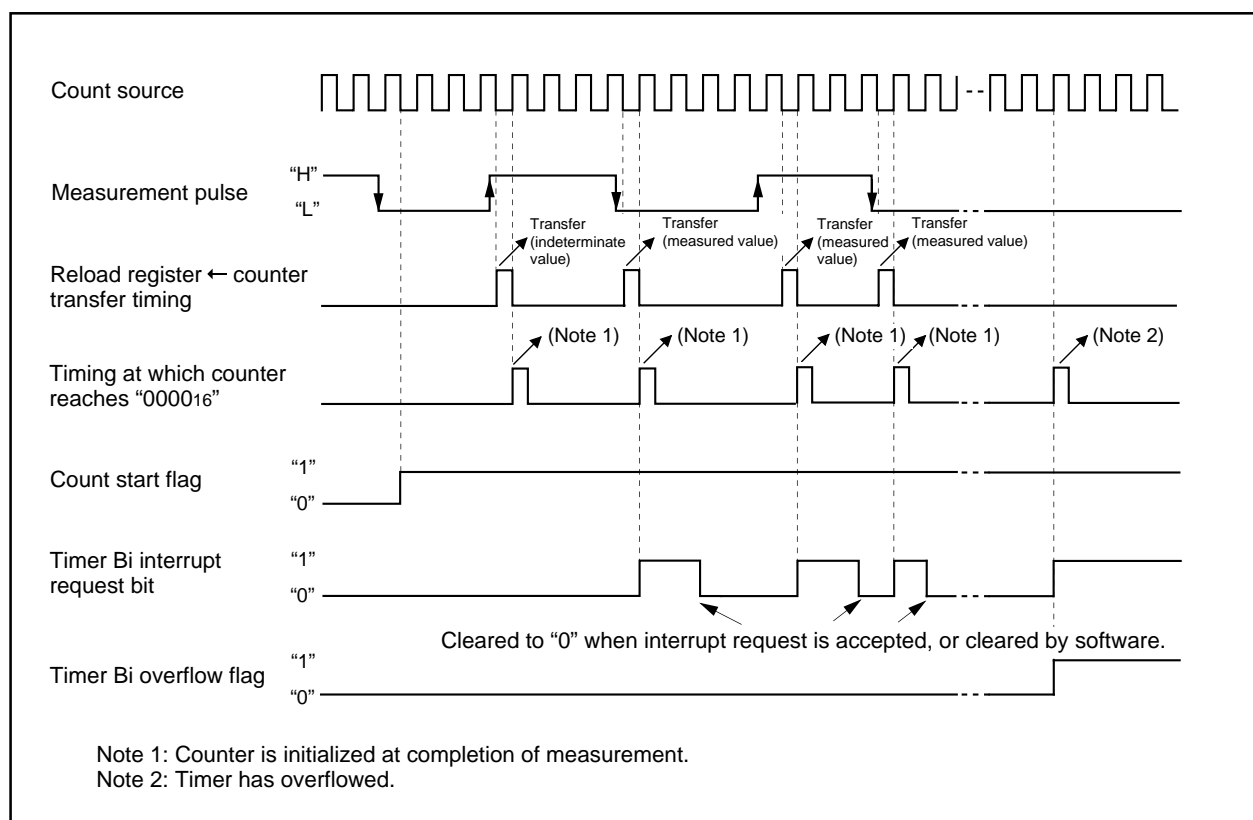

Figure 1.14.8. Operation timing when measuring a pulse width
1.14.7 shows the operation timing when measuring a pulse period. Figure 1.14.8 shows the operation